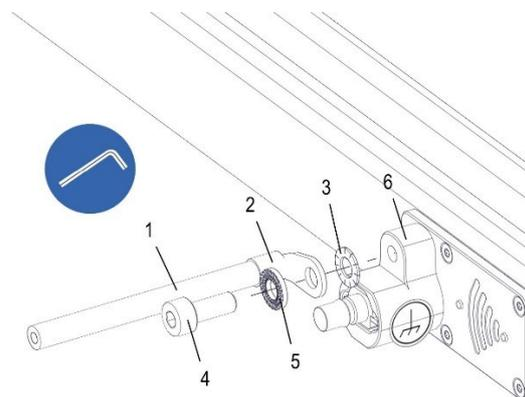

Fig. 135: Mount equipotential bonding cable on data rail line feed segment
- The line feed segment of the data rail has an equipotential bonding connector (6). Using a hexagon screw driver 3mm, screw the crimped equipotential bonding cable to this connector using screw connections consisting of a cylinder screw M4 (4), locking edge washer (5) and serrated washer (see Fig. 135).